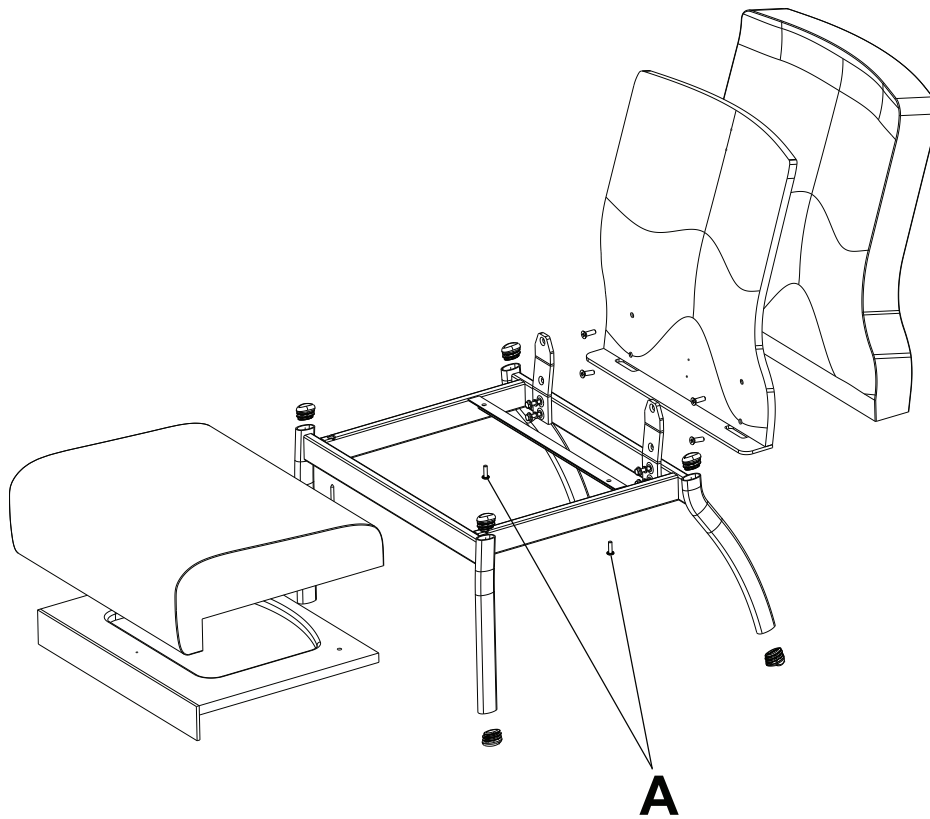

Figure 3 – Seat cushion replacement
3. Using a #3 Phillips screwdriver, remove the four screws (A) that secure the seat cushion to the frame (Figure 3). Remove and discard the seat cushion. Save the screws.